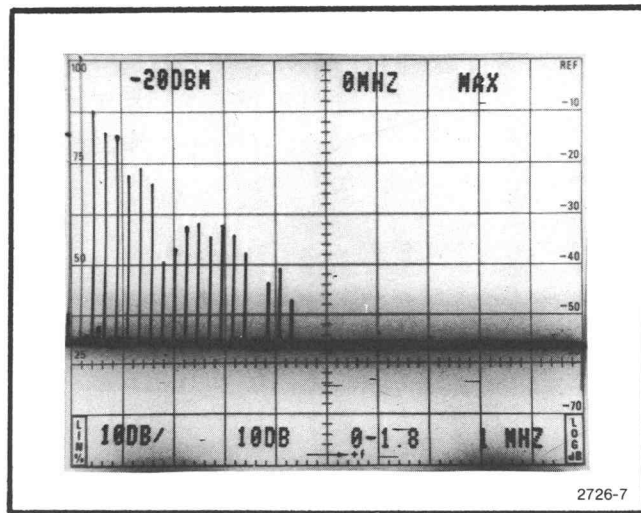

Fig. 2-4. Typical display of calibrator markers in MAX SPAN position.
e. Note the comb of 100 MHz markers at the left side of the display (see Fig. 2-4). Tune the dot marker to a position above the first 100 MHz marker.